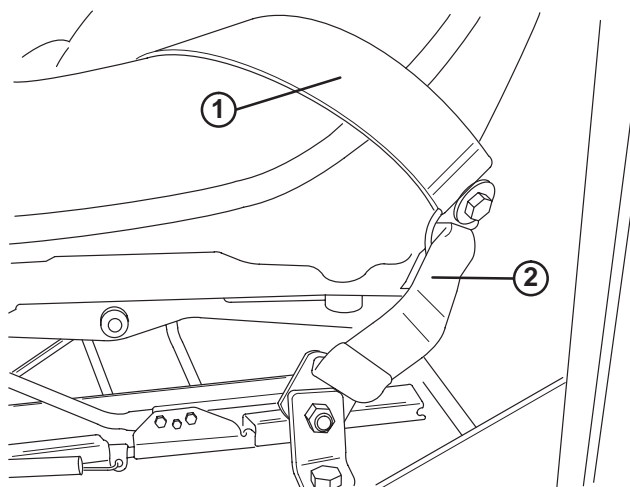

**Figure 9**
7. Adjust seat for operator's comfort and weight. To adjust seat fore and aft, pull handle on left side of seat assembly outward (Fig. 9). Release handle to lock seat
position. To adjust for operator's weight, turn spring tension knob; clockwise to increase tension, counterclockwise to decrease spring tension (Fig. 9).